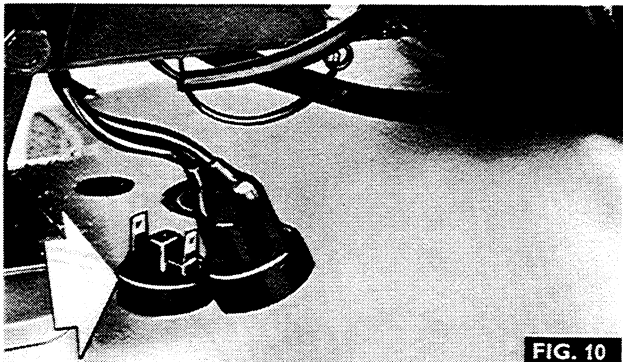

FIG. 10
1. Fig. 10. Lift up the rubber cover and disconnect the two wires at the switch.